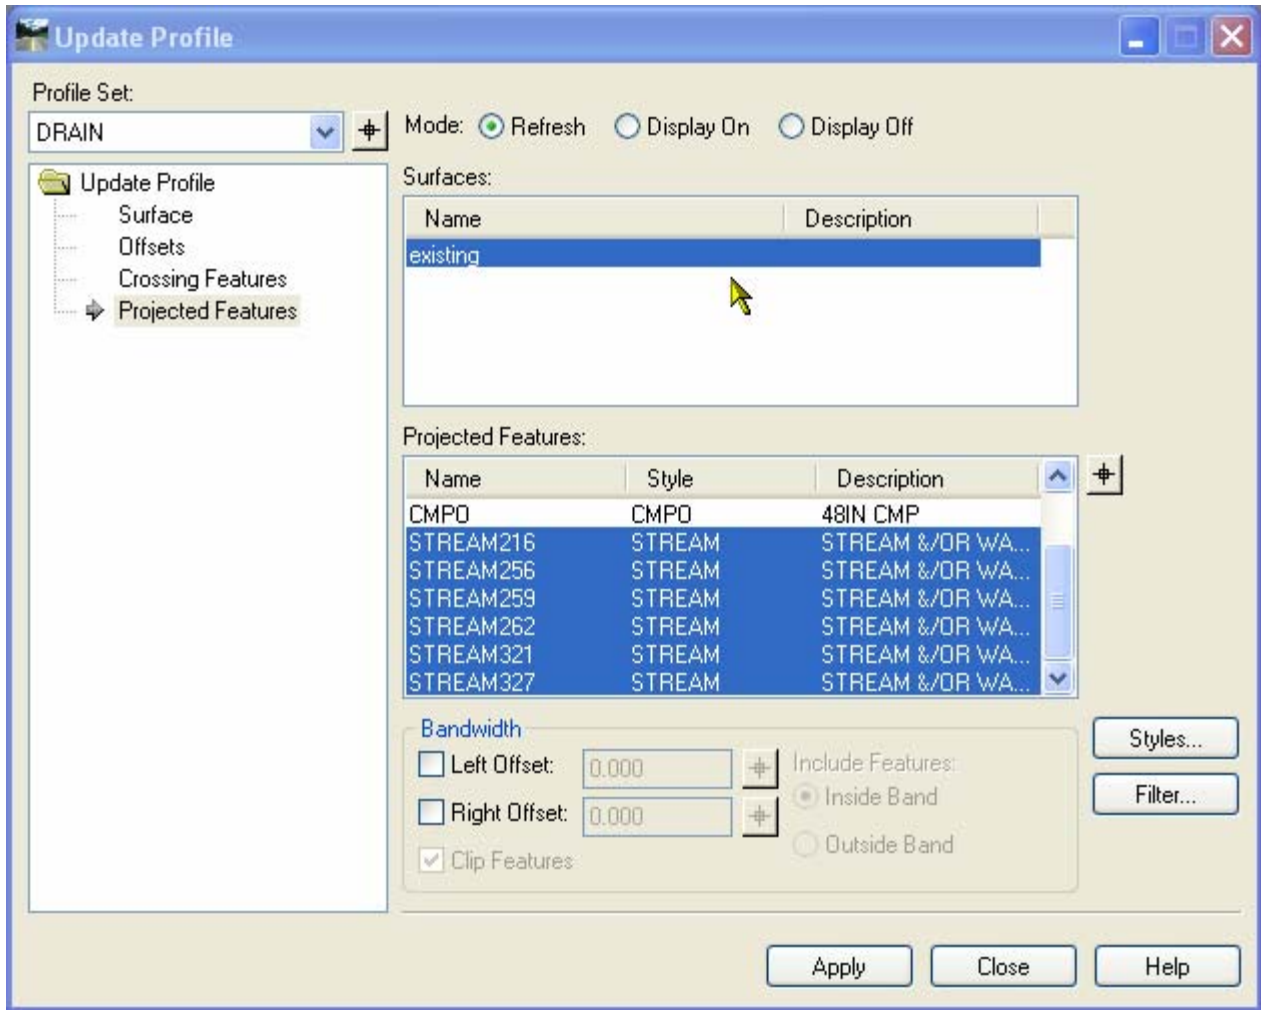

Figure 5-2 InRoads Update Profile Dialog Box
- A. Select **Evaluation > Profile > Update Profile** (Figure 5-2 will appear).
- D. Select **Projected Features**. In the Surfaces section, click the **Existing** surface. In the Projected Features section select all the **STREAM** features. Click **Apply**. Figure 5-2 shows the Update Profile dialog box.